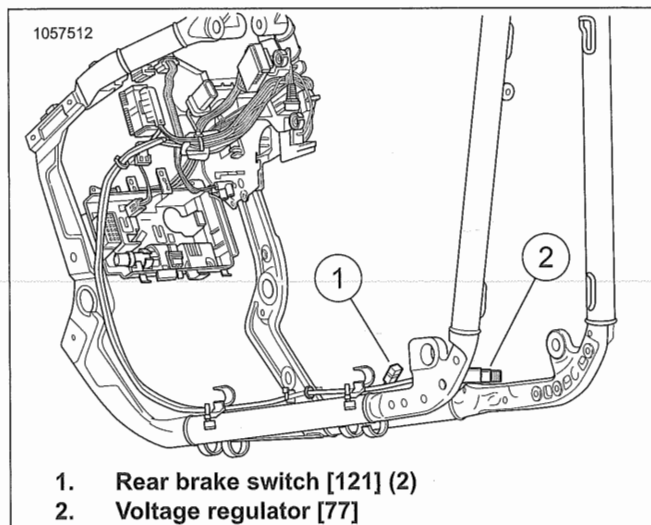
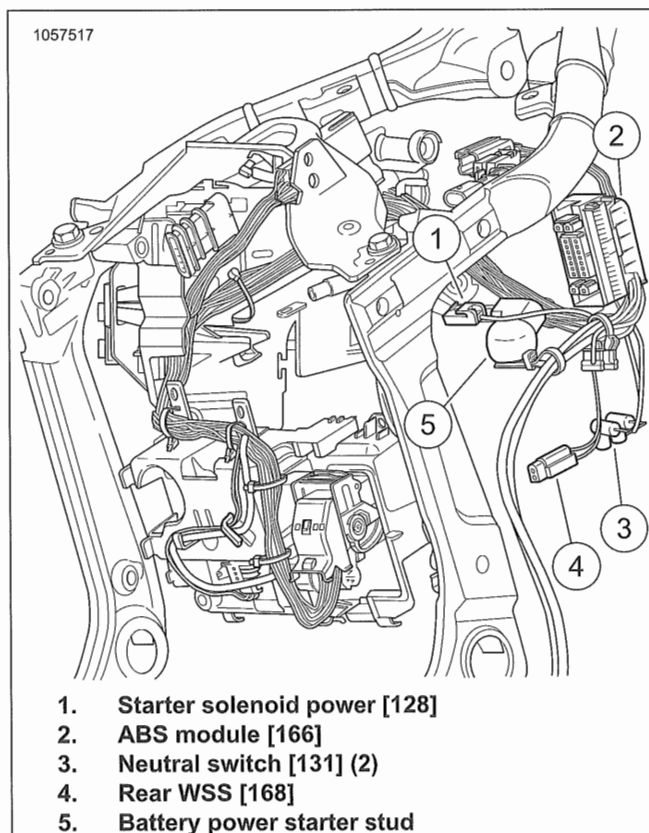

Figure 7-161. Main Harness Front
Figure 7-162. Main Harness Right Side
1. See Figure 7-161. Disconnect electrical connectors around voltage regulator.
- a. Disconnect voltage regulator (2).
- b. Disconnect rear brake switch (1).
2. See Figure 7-162. Disconnect electrical connectors from right side.
- a. **If equipped:** Disconnect ABS module (2).
- b. **If equipped:** Disconnect rear WSS (4).
- c. Disconnect neutral switch (3).
- d. Disconnect battery power on starter stud (5).
- e. Disconnect starter solenoid power (1).
- d. Connect security antenna (4) and install onto rear lighting caddy.
- e. Connect LP lighting (7) and install onto rear lighting caddy.
- f. Connect left rear STT lighting (5) and install onto rear lighting caddy.
- g. Connect right rear STT lighting (6) and install onto rear lighting caddy.
- 4. See Figure 7-162. Connect electrical connectors from right side.
- a. Connect starter solenoid power (1).
- b. Connect battery power on starter stud (5).
- c. Connect neutral switch (3).
- d. **If equipped:** Connect rear WSS (4).
- e. **If equipped:** Connect ABS module (2).
- 5. See Figure 7-161. Connect electrical connectors around voltage regulator.
- a. Connect rear brake switch (1).
- b. Connect voltage regulator (2).